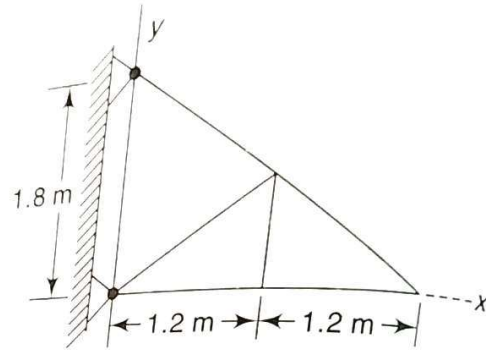

Figure 3.11
11. Locate the centre of gravity of the plane truss shown in Figure 3.11, if all the bars have the same weight per unit length.